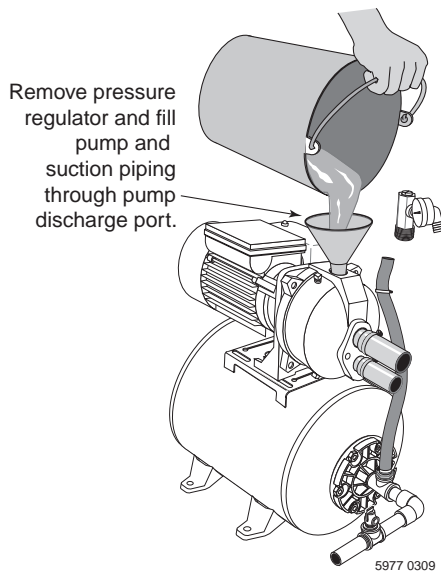

Figure 13: Fill Pump
Step 1. Open the pressure regulator as far as possible without backing it out of the regulator body. Then remove the regulator from the pump and fill the pump, fill all piping between the pump and the well, and make sure that all piping in the well is full. If you have also installed a priming tee in the suction piping, remove the plug from the tee and fill the suction piping (see Figure 13).